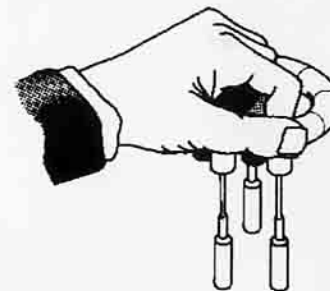

Fig.3
- Holding the replacement flash tube assembly as shown in Fig.3, locate the three brass sockets onto the plugs in the front of the unit. Press down evenly until all of the plugs and sockets are fully engaged. Pass the trigger wire through the hole in the trigger terminal tag and wind around the tag, ensuring that the trigger wire does not touch the metal top hat.